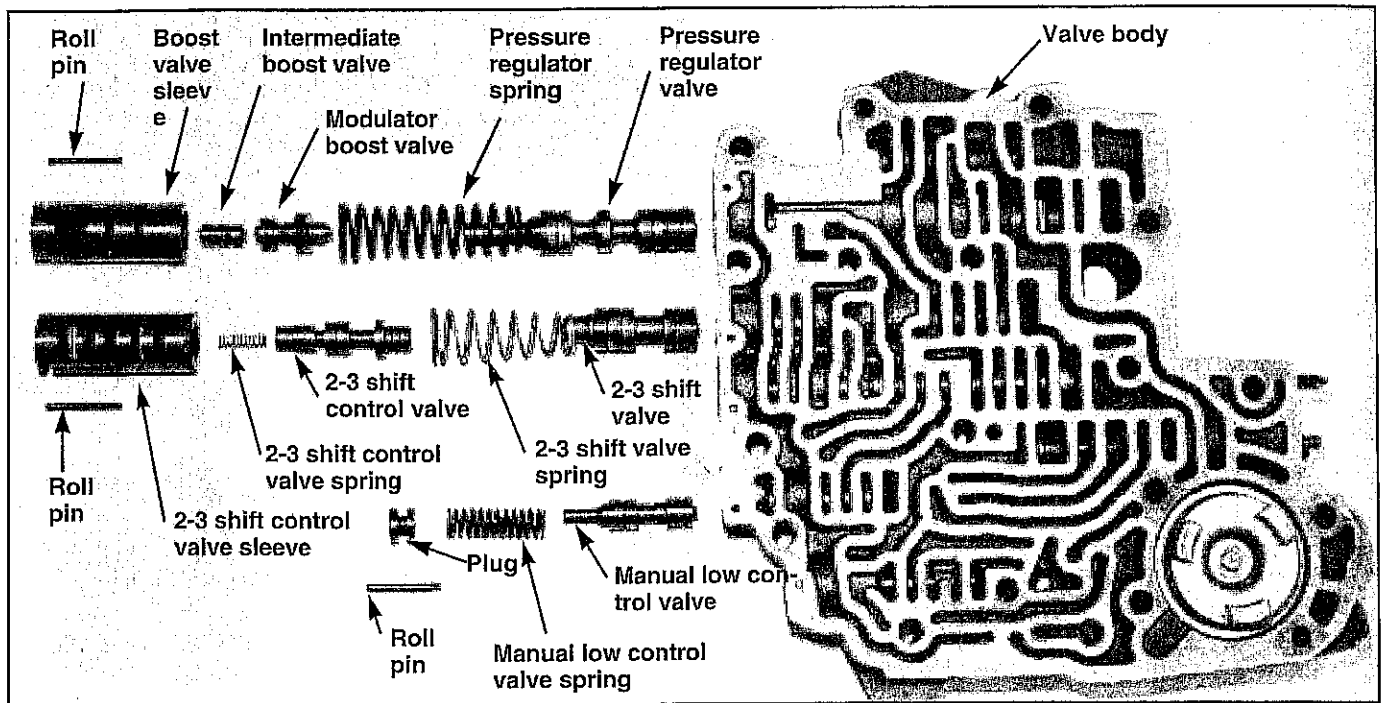

FIGURE 30
STEP 1. Place the valve body on the bench with the channel side up. Remove the roll pin holding the 2-3 shift control valve sleeve in place. (To remove the roll pin, push on the end of the sleeve until you notice the pin move slightly. Turn the valve body over and let the pin drop out of the valve body. If the pin doesn't drop out, rotate the sleeve as you push it in. You may need to tap the valve body on the bench lightly if the pin doesn't fall out. Be careful not to damage the sealing surface of the valve body if this step is necessary.) (See Fig. 30) Remove the sleeve carefully. This may require a little prying with a small screwdriver. Try not to raise any burrs during removal. Next remove the 2-3 shift valve spring. Discard this spring and replace it with the white spring supplied with the kit. Note: The small tapered end goes in first. Install the 2-3 shift control
STEP 2. Remove the roll pin holding the boost valve sleeve in place. (See Fig. 30) Remove the sleeve carefully. Again, this may require a little prying with small screwdriver. Remove the pressure regulator spring and discard it. Replace it with the orange spring supplied with the kit. Note: The small tapered end goes in first. Replace sleeve assembly and roll pin.
STEP 3. Remove the roll pin that holds the manual low control valve plug in place. (See Fig. 30) Remove the plug and the manual low control spring. Discard the spring and install the special sleeve supplied in its place. Install the plug and pin as removed. (Note: If the sleeve is too long to allow the plug to install properly, grind a small amount off the end of the sleeve.)